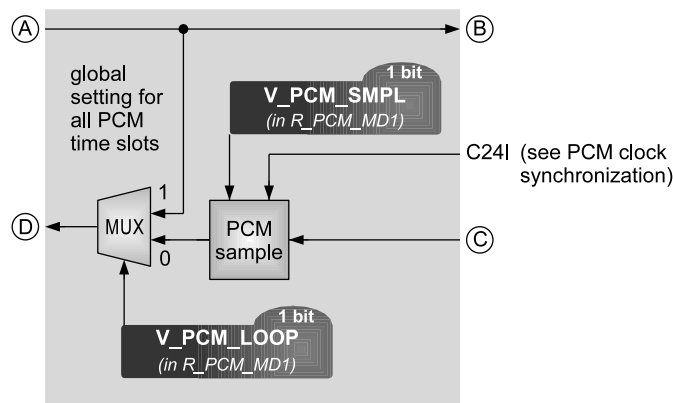

**Figure 6.1:** PCM data flow for transmit and receive time slots (see Figure 6.2 for additional setting of all PCM time slots between (A) . . (D))
The PCM data flow is shown in Figure 6.1. The input and output behavior has to be programmed with bitmap `V_ROUT` in array register `A_SL_CFG[SLOT]`. Every time slots has its own configuration.
Figure 6.1 shows the PCM data flow which can be programmed for each PCM time slot individually. Global settings to the PCM data flow are available between (A) .. (D) as shown in Figure 6.2. When V\_PCM\_LOOP = '1' in register R\_PCM\_MD1, the PCM data is looped internally.